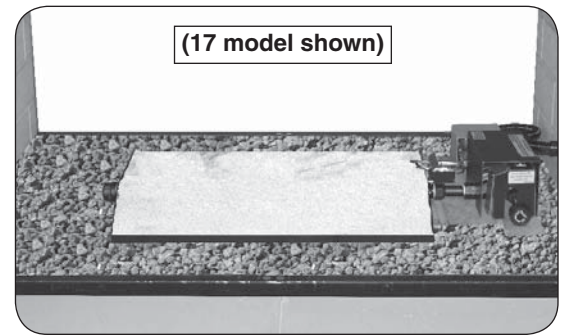

Fig. 19-1 Place sand/vermiculite
1. Fill the burner pan completely with the sand/vermiculite (see Fig. 19-1). **Avoid spilling the sand/vermiculite on the pilot assembly. DO NOT place sand/vermiculite on any other parts of the burner, valve, or heat shield.**